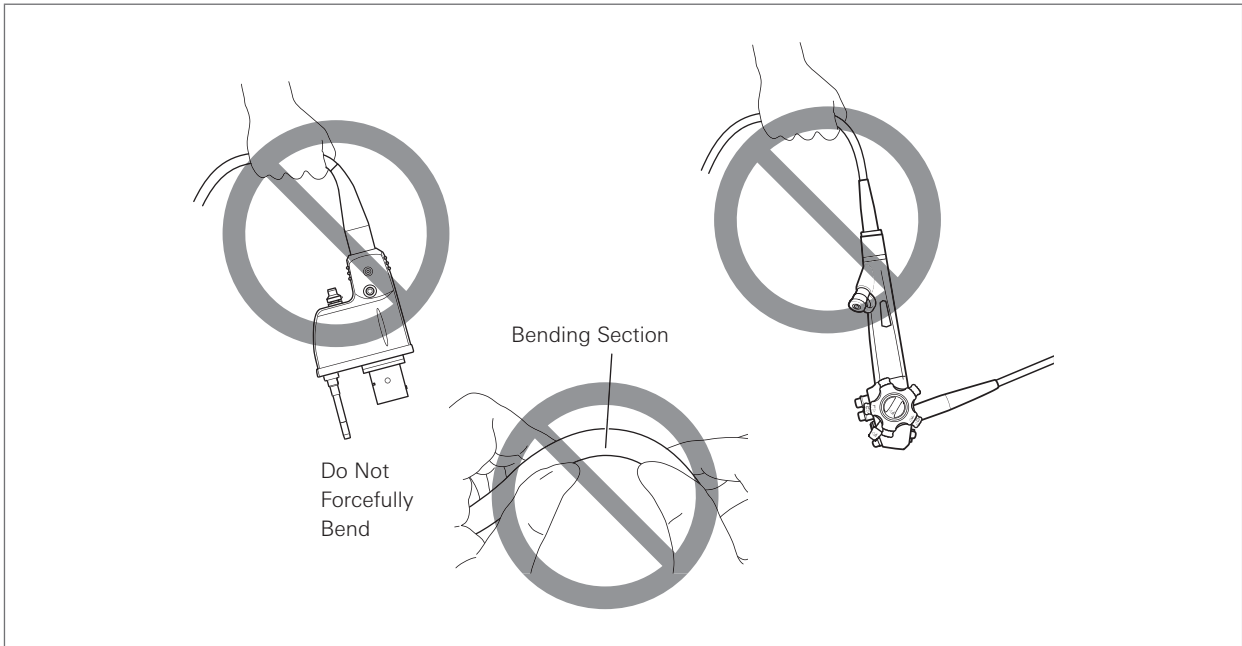

Figure 3.3
- When carrying the endoscope, do NOT grasp or carry it only by its umbilical cord or insertion portion. Moreover, do NOT squeeze or forcefully bend the bending section. (Figure 3.3) Doing so may result in equipment damage.